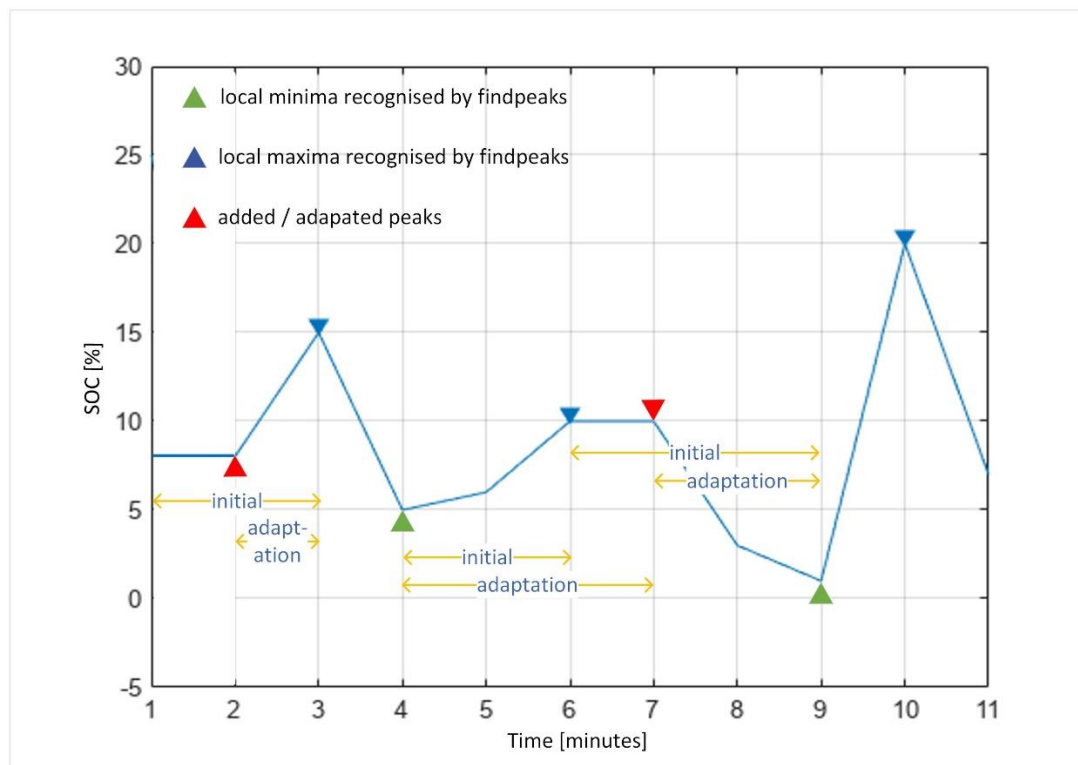

Fig. 10. Understanding the limitations of `findpeaks`, and why adaptations are implemented.
`findpeaks` command is used to find out the local maxima and minima of SOC – then these peaks can be used as breakpoints to divide discharge and charge segments. E.g., one maxima and its nearest following minima delimit a discharge segment in between. However, due to the **limitations of `findpeaks`**, two more adaptations are implemented - Fig. 10. helps understand the limitations and adaptations.
(1) The first limitation is that `findpeaks` cannot recognise the starting point of experiment, where the current started to change from zero. In Fig. 10, this starting point exists at Time 2, where the SOC started to change, as a result of current change. In `dataextractor.m`, this starting point is claimed as 'pulse_head', and there is a for-if-break loop to recognise it. Recognising this starting point is essential, because in some cases there can be a very long
(2) The second limitation is that `findpeaks` returns the leading edge of a 'plateau', and this is reflected at Time 6 in Fig. 10. However, it is the following edge (at Time 7 in Fig. 10) rather than the leading edge that should be recognised. This is because **a complete pulse is considered as the pulse itself plus the following relaxation period, rather than plus the relaxation period before the pulse**. In other words, the dynamic voltage and current behaviours during one relaxation are a result of the pulse before the relaxation. In `dataextractor.m`, after `findpeaks` returns a leading edge, the nearest following edge can be then recognised by a for-for-if-break loop.